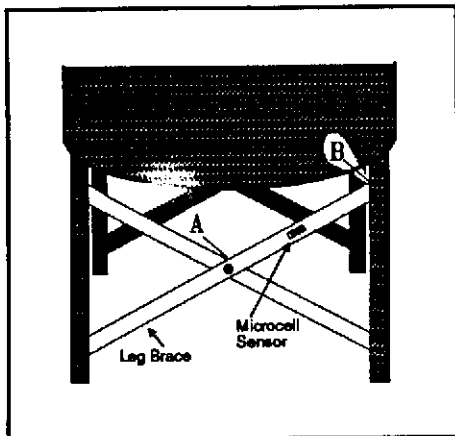

Figure 6. Brace Wrap Location.
1. Measure the brace between point 'A' and point 'B' shown in Figure 6.